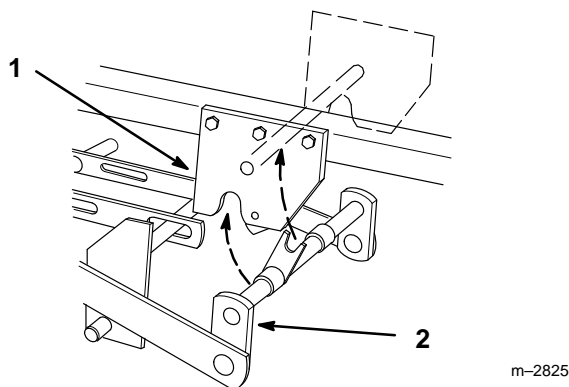

Figure 15
10. Open mid-mount hitch lock handle. Lower mower with attachment lift and remove front mounting shaft (Fig. 15).